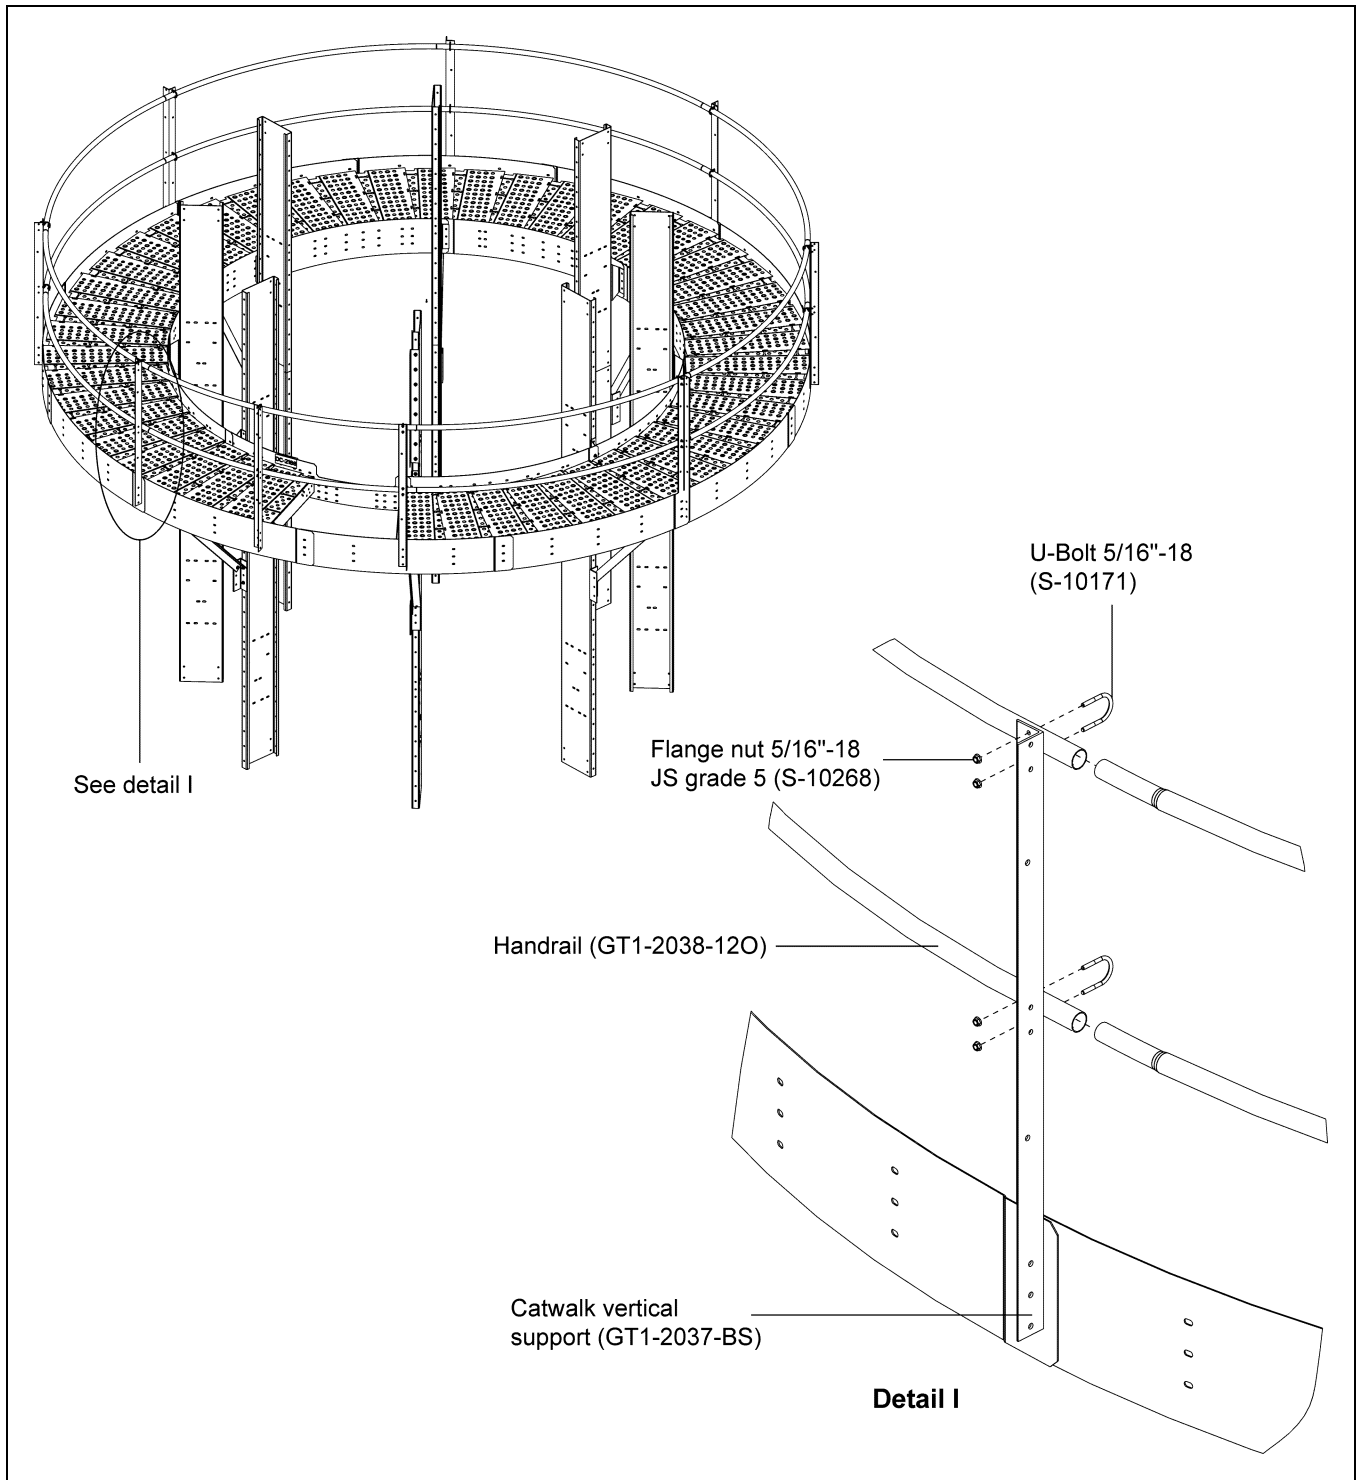

Figure 4T
1. Install the handrail (GT1-2038-12O) to the catwalk vertical support (GT1-2037-BS) using 5/16"-18 ZN U-bolts (S-10171) and 5/16"-18 JS grade 5 nuts (S-10268) to tighten the handrail with vertical post. (See Figure 4T.) (See Page 26.)